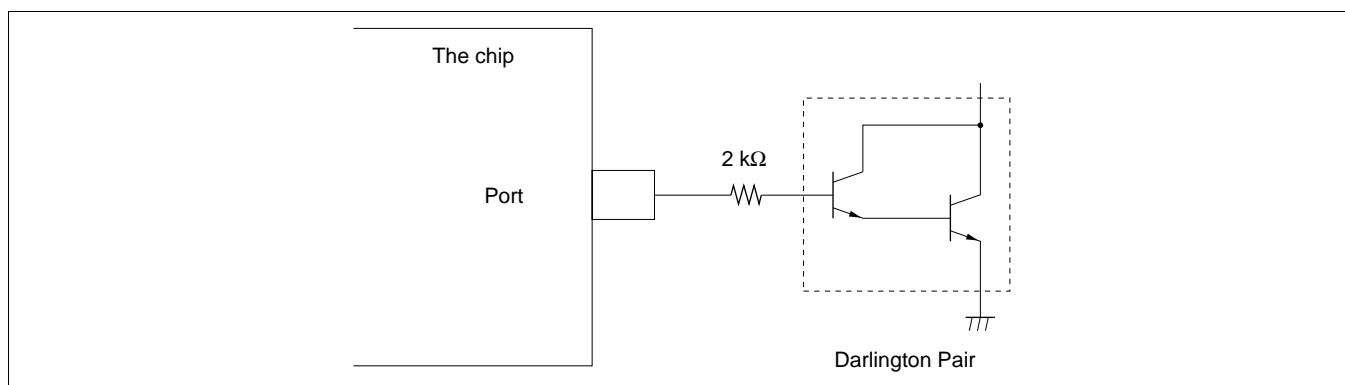

Figure 22-33 Darlington Pair Drive Circuit (Example)
2. When driving a darlington pair or LED directly, always insert a current-limiting resistor in the output line, as show in figures 22-33 and 22-34.